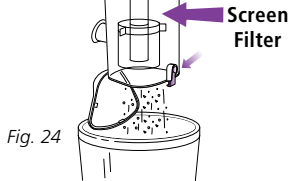

Fig. 24
- If needed, turn the dust cup upside down over the trash receptacle and press the top door release button. **(Fig. 24)** Tap gently to remove contents.